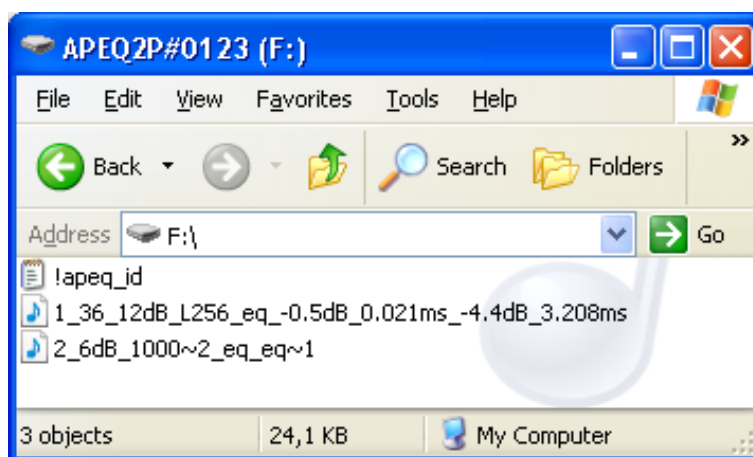
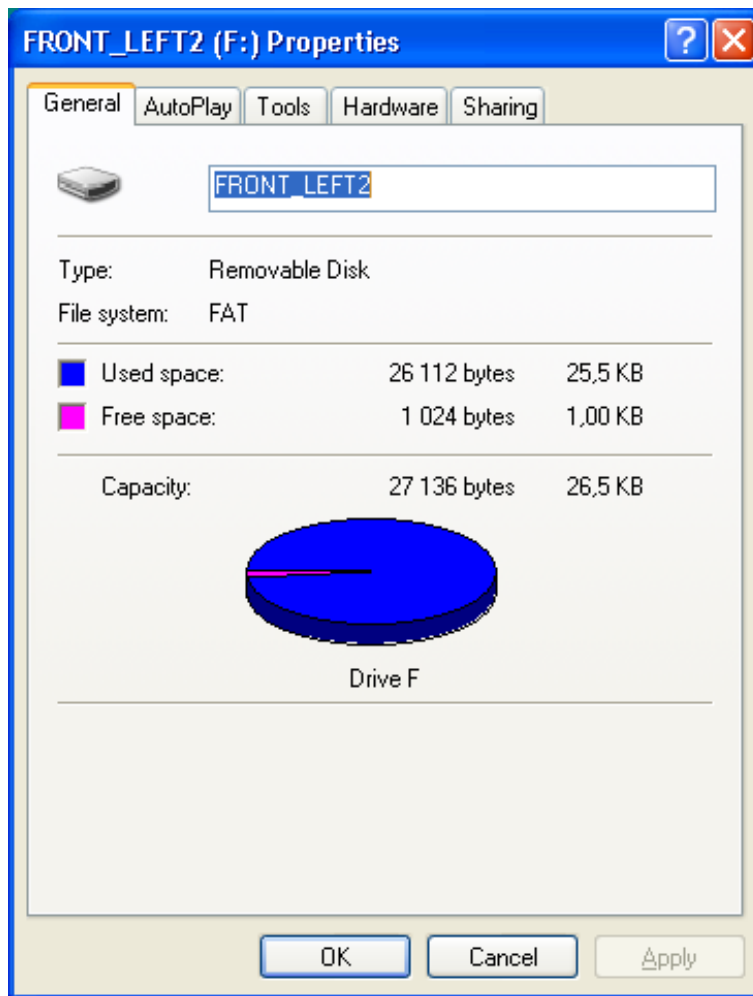

Figure 5: Windows Explorer view of the APEQ-2pro device's USB mass storage device disk drive. Filter file names are given as an example and may be different.
Figure 6: Changing the volume label of the APEQ-2pro device.
The APEQ™ device may be identified in a few ways. Each APEQ™ has unique serial number. This number is displayed on the product label, which may be found on the device back panel or on one of the covers, as well as stored in the internal memory at time of manufacturing. The product label also contains information about device type (APEQ2P02 or APEQ2P02DIO for the 2-nd product generation described in this section) and device manufacturing date. Device serial number is also shown in the RS-232 terminal output (see figure 8). One more way to check device serial number is to read device identification file on the device USB mass storage drive – file !apeq_id.txt (see figure 5).
The identification file contains also other information about the APEQ™ device – product type and firmware version. By default, the APEQ™ device drive has a volume label, constructed from shortening of device type (APEQ2P for APEQ-2PRO) and last 4 digits of device serial number. See figure 5 for an example of volume label of device with serial number 0123. You may change the device volume label using standard operating system tools (see figure 6). This name will be stored by the APEQ™ device and may be used later for device identification.
- Open the device disk using Windows Explorer. Disk may be easily found by device volume label, which, by default, contains part of the device serial number (if not changed by the user – see section "Device Identification"). See figure 5 for an example of the APEQ™ disk opened in the Windows Explorer application;